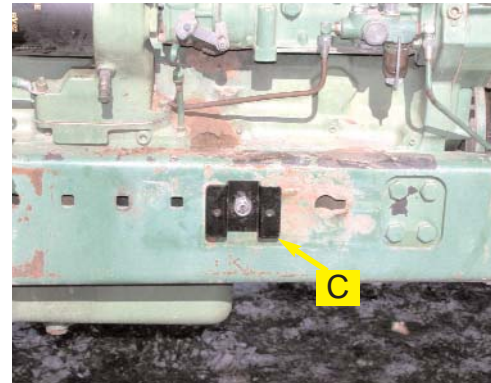

Figure 2b. Mounting bracket (installed).
b. Use the hardware in group (**E**) to install the mounting bracket (**C**) to the tractor frame. (Figure 2b.)